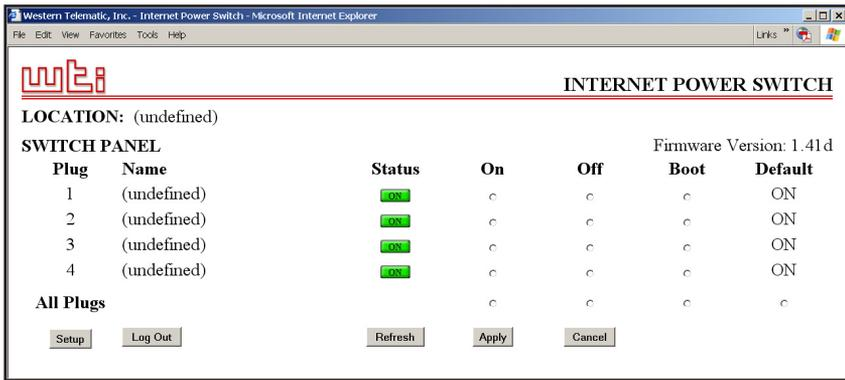

Figure 6.1: Plug Status Menu - Web Browser Interface
When you logon to the IPS command mode, using the Web Browser Interface, the first screen that is displayed after login is the Plug Status Screen (or "Switch Panel".) The Plug Status Screen (Figure 6.1) lists the current On/Off status of the IPS's Switched Outlets, user defined On/Off Defaults and provides a series of "radio buttons" which are used to control switching of the outlets.
2. When the Plug Status Screen (Figure 6.1) appears, note that the screen includes a status field and On/Off/Boot/Default controls for each of the IPS's four Switched AC Outlets.